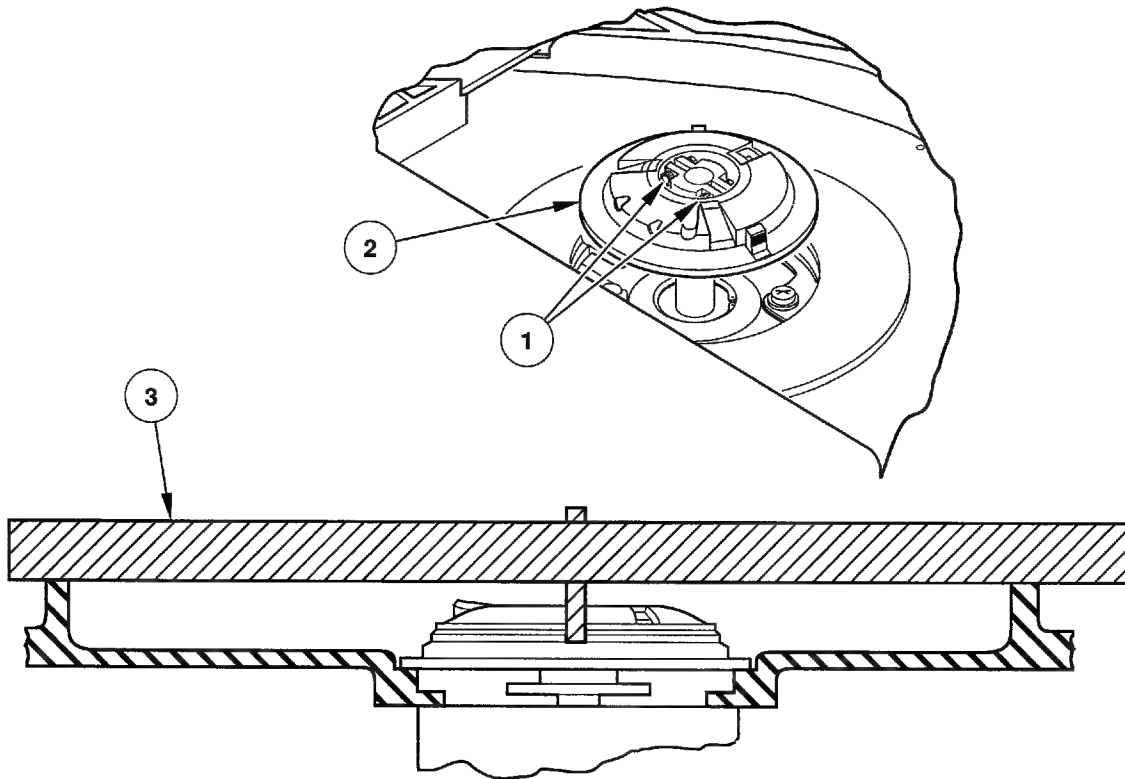

Figure 6-37. Supply Hub Adjustment
1. Loosen the two screws (1) securing the supply hub (2) to the motor shaft.
2. Position a hub-height adjustment tool (3) so that it lies on the deck plate as shown in Figure 6-37.